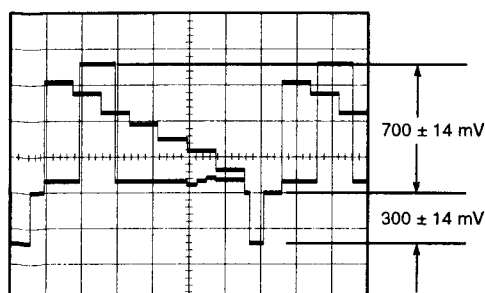

Fig. 5-1-7
- Adjust VR3 so that the Y Level becomes  $700 \pm 14\text{ mV}$  as shown in Fig. 5-1-7.
- Adjust VR1 so that the Sync Level becomes  $300 \pm 14\text{ mV}$  as shown in Fig. 5-1-7.